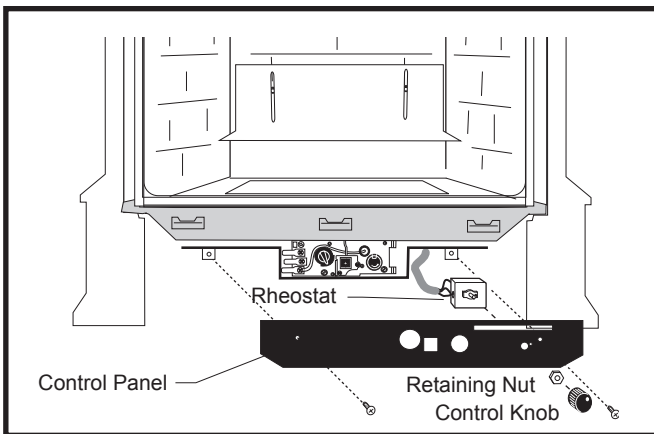

Fig. 4 Attach the Rheostat to the Control Panel.
- Insert the switch box shaft through the hole in the back of the right side of the Panel, aligning the locator pin with the smaller hole in the panel. (Fig. 4)
UVS27R / Honeywell Millivolt Valve: Install the rheostat onto the control panel at the hole to the right of the valve, as in Figure 4.